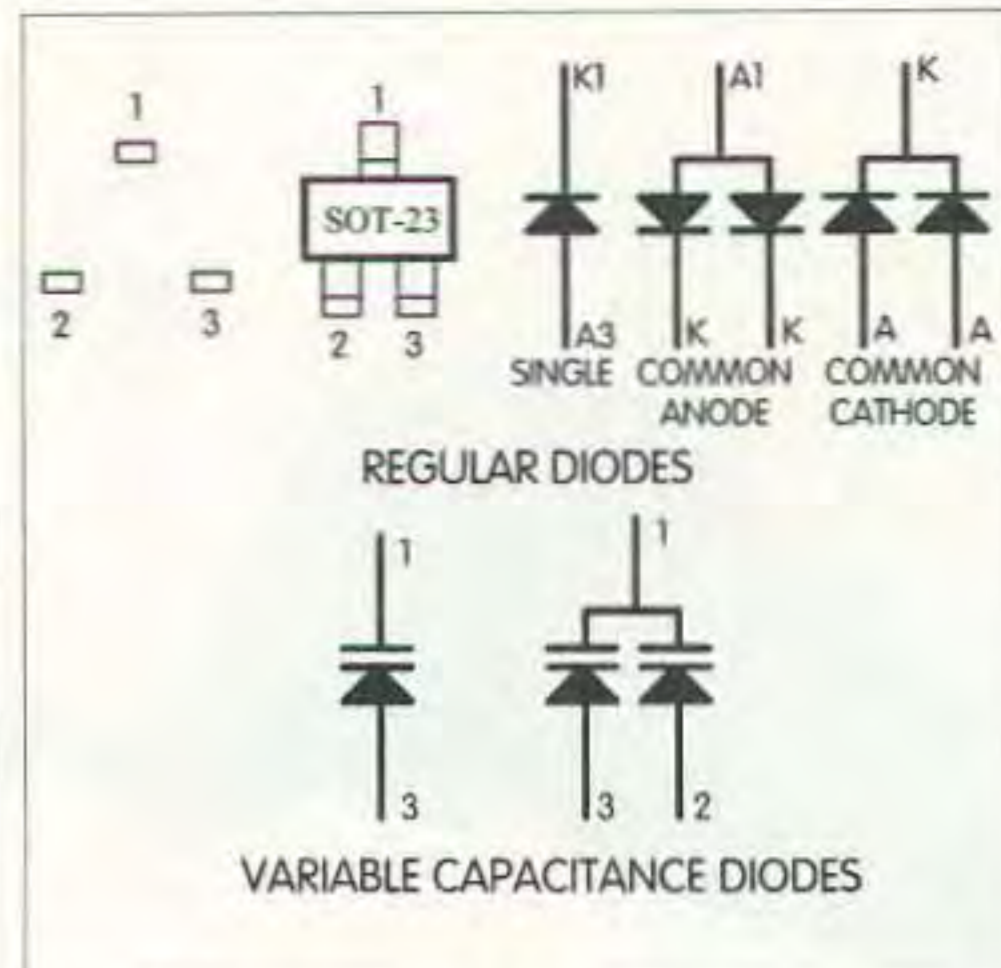

Fig. 4. The fixed diode terminals are listed as numbers and more than one diode may be found in one chip.
transistors. The SMD diode can be identified by two alphabet letters or numbers. You might find one or two fixed diodes in one chip (**Fig. 4**). Only two terminals are used with one fixed diode, while all three terminals are used with two diodes in one SOT-23 chip. These diodes can be purchased in one (1), 10, and 100 lot pricing.